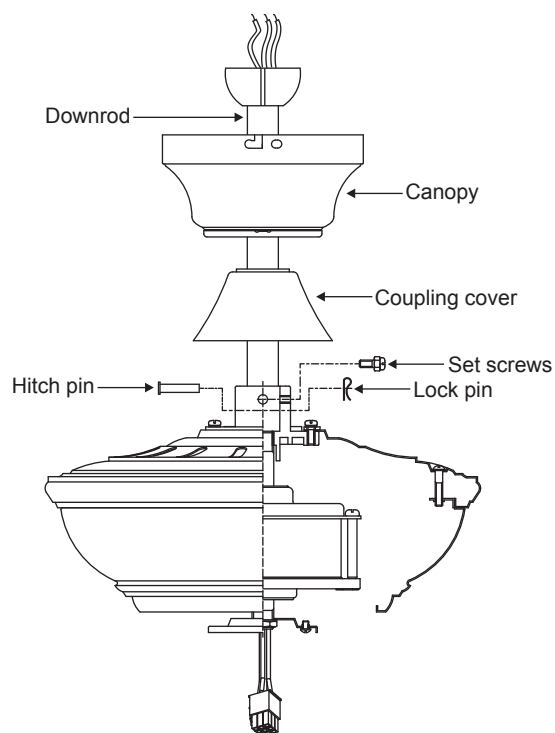
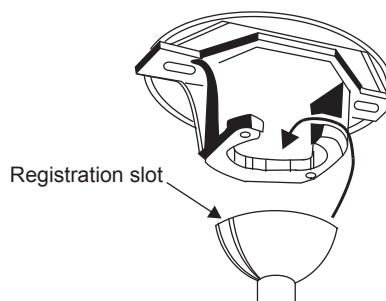

Figure 6
Figure 7
Step 4. Route wires exiting from the top of the fan motor through the coupling cover, and then through the ball/downrod. (Fig. 6)
Step 7. Align the holes at the bottom of the downrod with the holes in the collar on top of the motor housing (Fig.6). Carefully insert the hitch pin through the holes in the collar and downrod. Be careful not to jam the pin against the wiring inside the downrod. Insert the locking pin through the hole near the end of the hitch pin until it snaps into its locked position, as noted in the circle inset of Fig. 7.
Step 8. Tighten two set screws on top of the fan motor firmly. (Fig. 6)
Step 9. Place the downrod ball into the hanger bracket socket. (Fig. 7)